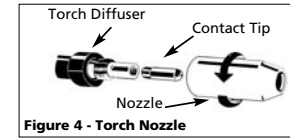

Figure 4 - Torch Nozzle
- b. Wire matches contact tip in end of gun. (See Fig. 4).
7. Remove nozzle by turning counterclockwise, then unscrew contact tip from end of welding torch (See Figure 4). Plug welder into a proper power supply receptacle.
9. Carefully slip contact tip over wire and screw tip into torch end. Install nozzle by turning clockwise (See Figure 4). Cut wire off approximately 1/4 inch from nozzle end.